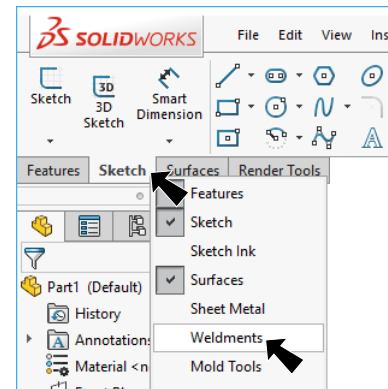

Fig. 1
Step 2. **Right click Sketch**  on the Command Manager toolbar and select **Weldments**, **Fig. 1**.